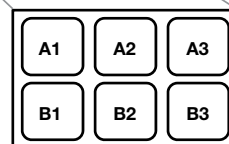

Figure 6. Experimental setup for creating a single-dose compound profile using Kinase Selectivity Profiling Systems.
1. Transfer 1 μ l of 1X Kinase Buffer with 5% DMSO to each well of column 1 and 2 of a 384-well assay plate (see Step 1 of Figure 6).
2. Transfer 1 μ l of the Compound Solution to all wells in column 3. This column contains the compound-containing reactions (see Step 2 of Figure 6).
4. Add 2 μ l of Kinase Working Stocks to all wells of columns 2 and 3, adding each kinase to two consecutive rows (see Step 3 of Figure 6).
6. Transfer 2 μ l of ATP/Substrate Working Stocks to wells in all assay columns, adding each ATP/Substrate Working Stock to two consecutive rows and making sure to use the appropriate substrate for each kinase (see Step 4 of Figure 6).